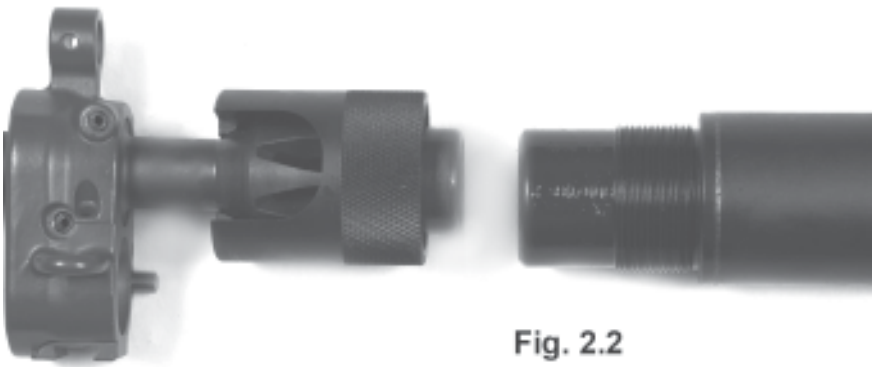

Fig. 2.2
2.10.1.3 Align the retaining collar with the flash compensator as shown in Fig. 2.2. Align suppressor with flash compensator.